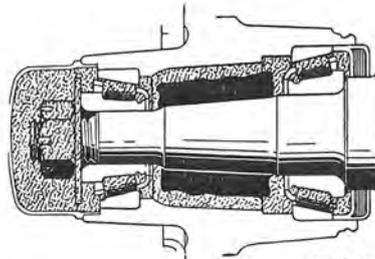

**Fig. 7-26. Fitting the seal**
- Use a high-class bearing grease for the bearing. Place the inner bearing in position in the hub. Press in the seal with drift SVO 2723 and standard handle SVO 1801, see Fig. 7-26.